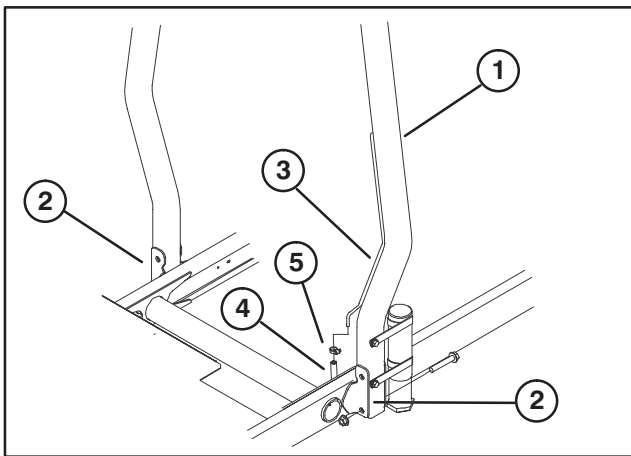

Figure 11
INSTALL ROPS (Fig. 11)
- Secure each side of roll bar to mounting brackets with (2) flange head capscrews and locknuts (Fig. 11). Torque fasteners to 60 ft–lbs.